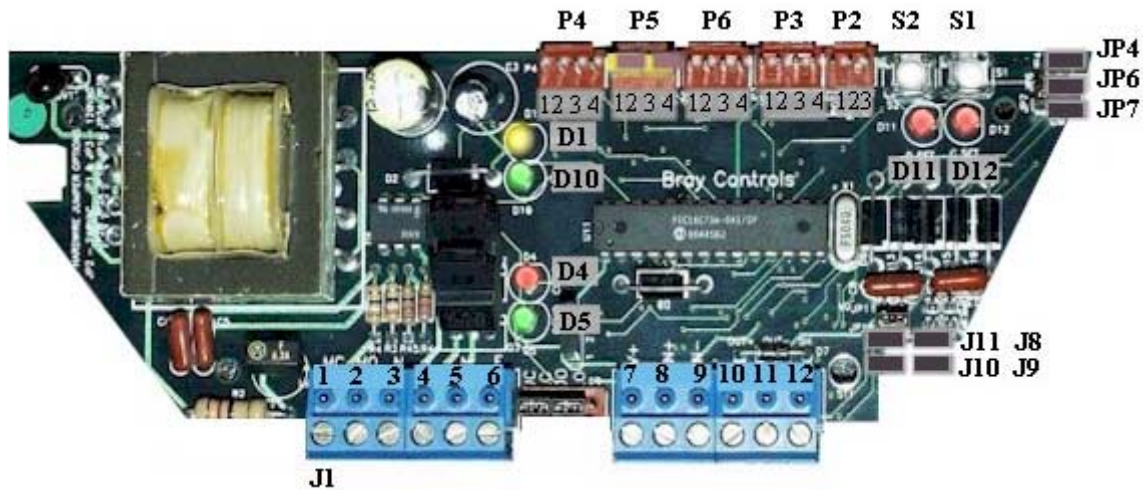

Figure 1: S70 Servo Plus!
The S70 Servo Plus! consists of a printed circuit board (Figure 1), which includes the Command Signal Input, Retransmission Feedback signal, terminal connections to the S70 Actuator, calibration press buttons and indicators, Status Indicator LEDs, and jumpers to select different operating modes.
The S70 Status LED D10 (Figure 1) indicates the current status of the S70 Servo Plus!. Table 10 describes the different states of the status LED.
4. Press and hold the C Set pushbutton S1 (Figure 1) for a minimum of 2 seconds. LED D12 will light to signify the pushbutton is pressed. After 2 seconds, release pushbutton S1. This will cause the closed calibration data to be stored in the Servo Plus! non-volatile memory. If pushbutton S1 is held for less than two seconds, such as an accidental touch, the calibration data will not be stored in the memory.